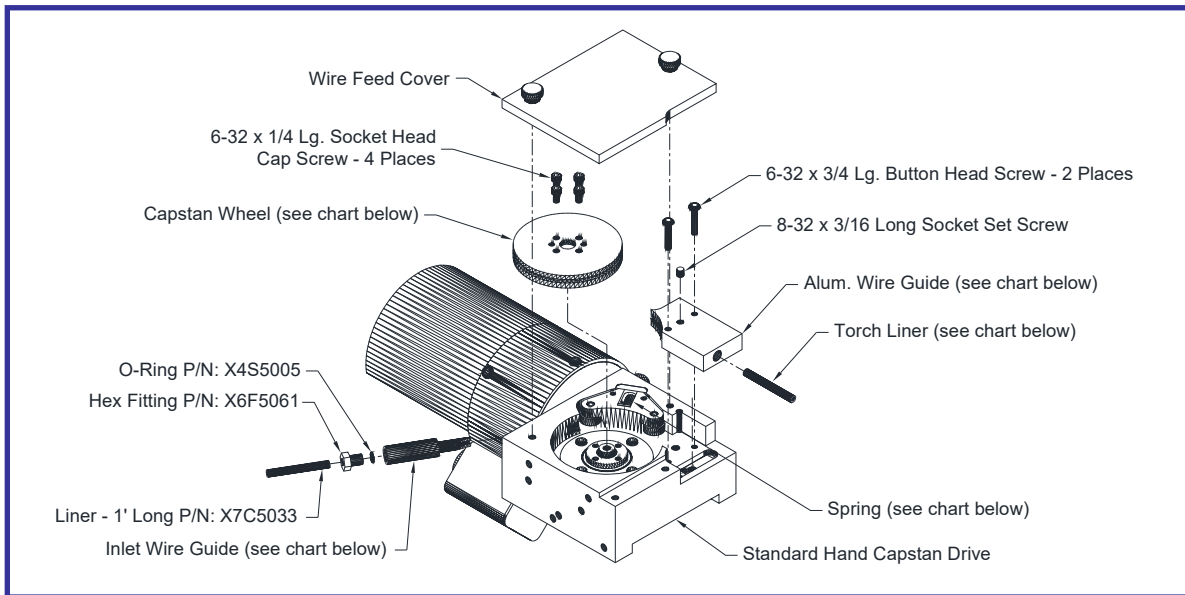

Figure 8 – Aluminum Pick-up Block Standard Hand Wire Drive Configuration
- 5.1 When using an aluminum filler wire with the capstan, an Aluminum Wire Pick-up Block Kit specifically made for each size wire must be installed on the capstan. Figure 8 and 9 show all the parts that are included in these kits. The capstan drive is not part of these kits.
- 5.5 Refer to Figure 8 and 9 to select the correct wire drive wheel, inlet guide, scraper plate and pressure roller shoe spring for the desired wire diameter. Install the new drive wheel on the motor drive shaft and reinstall the four mounting screws. Install the spring into the pressure roller assembly. Tilt the pressure shoe assembly with the spring setting against the pressure shoe cavity on the motor mounting block. Compress the spring until the pressure shoe assembly can be lowered into the cavity. Make sure that the pressure shoe guide pin is seated into the groove in the cavity. The pressure shoe should be seated flat against the bottom of the housing.